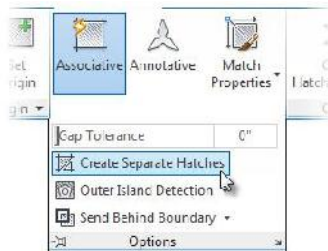

FIGURE 11.5: Choosing the Create Separate Hatches option from the expanded Options panel
5. Moving to the Properties panel, enter 1 (25) in the Hatch Pattern Scale text box to set the scale to 1.0000 (25).
6. Expand the Options panel, and select the Create Separate Hatches option, as shown in Figure 11.5.